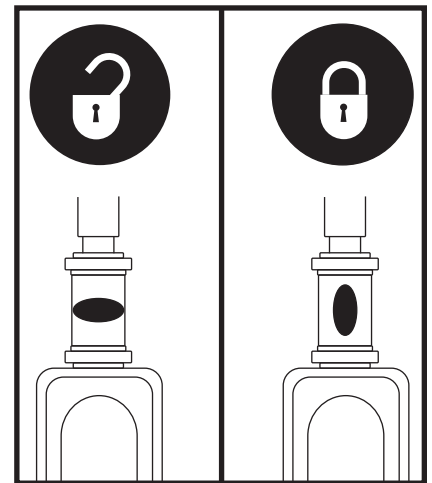

Figure 35. Tiller Lock Knob
2. Lock the tiller in the straight ahead position by pushing the tiller lock knob in and turning it clockwise 90°. See **figure 35**. The front wheel must face forward in order to lock the tiller.
1. Remove the key from the key switch and then lock the tiller in the straight ahead position by pushing the tiller lock knob in and turning it clockwise 90°. See **figure 35**. The front wheel must face forward in order to lock the tiller.
6. Unlock the tiller by turning the tiller lock knob 90° counterclockwise. See figure 35.